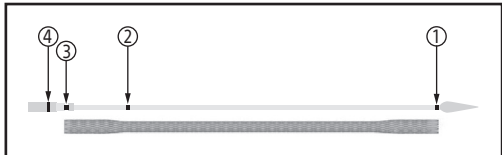
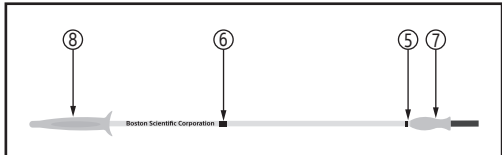

Figure 2. Delivery System and Radiopaque (RO) Markers
Figure 3. Delivery System, Visual Markers and Handles
There are four radiopaque (RO) markers to aid in the deployment of the stent while using fluoroscopy. Radiopaque marker bands attached to the inner tube indicate the length of the constrained stent on the delivery system (Figure 2, #1 and #3). A marker band on the inner catheter between the constrained stent markers indicates at what point reconstraint is no longer possible, Figure 2, #2. Up to this point, the stent can be reconstrained and repositioned if desired, no more than two times. The fourth radiopaque marker band at the distal end of the exterior catheter indicates up to what point the stent has been deployed (Figure 2, #4). The tip and inner tube are also radiopaque for use with fluoroscopy. After placing the guidewire, remove the gastroscope from the patient leaving the guidewire in place. Reinsert the gastroscope alongside the guidewire if direct visualization of stent deployment is desired. Tilt the patient's head to provide the straightest pathway for advancement of the delivery system over the guidewire. Lubrication can be applied if desired.
Using fluoroscopic guidance, position the stent with the proximal RO marker above the proximal tumor margin and the distal RO marker below the distal tumor margin, centering the tumor between the markers (Figure 2, #1 and #3). This ensures that the stent will properly bridge the tumor. If it is not necessary to cross the Lower Esophageal Sphincter (LES), the distal end of the stent should remain above the LES in order to leave the LES functional and reduce gastric reflux. The stent can cross the LES if necessary due to tumor involvement and stricture.
Begin stent deployment by holding the distal handle (farthest from the operator, Figure 3, #7) of the delivery system with one hand, and using the other hand, grasp the proximal handle (closest to the operator, Figure 3, #8) and hold this handle stationary. Between the handles is a yellow segment with visual markers. These visual markers are intended to aid in stent deployment. Prior to deploying the stent, you can visualize a marker at the fully constrained/undeployed position (Figure 3, #5).
In order to deploy the stent, hold the distal handle (farthest from the operator, Figure 3, #7) with one hand and the proximal handle (handle closest to the operator, Figure 3, #8) with the other hand. To deploy the stent, slowly pull the distal handle toward the proximal handle while holding the proximal handle stationary. Monitor the stent release fluoroscopically and/or endoscopically, keeping the fluoroscopic markers on the delivery system between the identified stricture margins. If necessary, it is possible to stop deployment and adjust the stent position proximally prior to passing the reconstraint marker (Figure 3, #6). Refer to the reconstraint technique section. If satisfied with stent placement, proceed with full deployment.
- The stent can be reconstrained at any point up to the reconstraint markers (radiopaque Figure 2, #2 and visual Figure 3, #6).
Note: The stent is fully constrained if visual marker (Figure 3, #5) is fully visible.